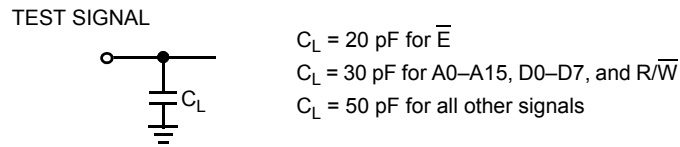

Figure 2. Signal Loading for Timing Specifications Unless Otherwise Specified
20. The three-state condition is when the device is not actively driving data. Refer to *Figure 2* and *Figure 5* for detailed measurement information.